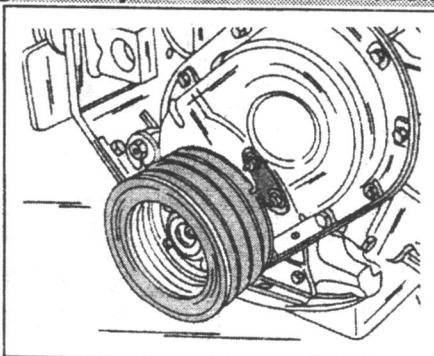

Fig. 1.60. — The notch in the crankshaft pulley must be opposite the pointer on the timing plate before installation of the distributor.
- Adjust the initial setting of the distributor. First rotate the crankshaft until the notch in the pulley is in line with the pointer on the timing plate, as shown in Fig. 1.60. Check the position of the driver for the distributor shaft. The larger offset of the drive dog must face towards the rear of the engine when the piston of No. 1 cylinder is at top dead centre (firing point). If this is not the case, rotate the crankshaft one turn.